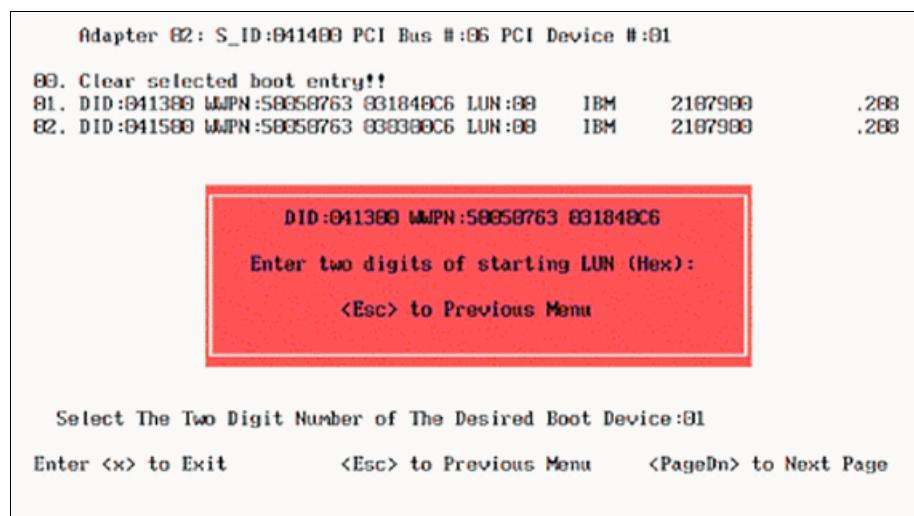

Figure 18-17 Starting LUN number panel
- A pop-up window requests entry of the starting LUN number to display. Enter 00 to display the first 16 LUNS as shown in Figure 18-17.